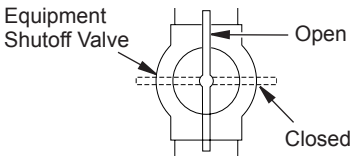

Figure 51 - Equipment Shutoff Valve
Installation must include an equipment shutoff valve, union and plugged 1/8" NPT tap. Locate NPT tap within reach for test gauge hook up. NPT tap must be upstream from fireplace (see Figure 51).
1. Close equipment shutoff valve (see Figure 51).
1. Open equipment shutoff valve (see Figure 51).